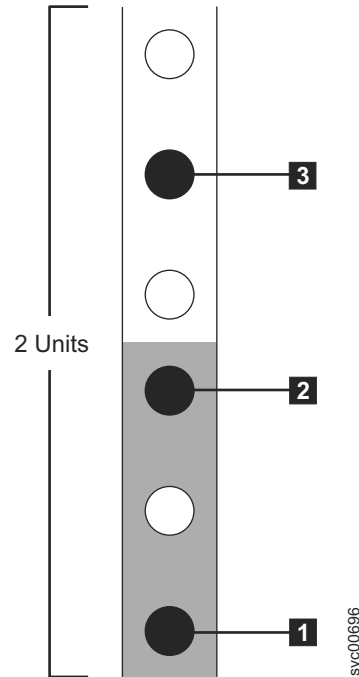

Figure 28. Hole locations in the back of the rack
1. Figure 28 shows two rack units with the back mounting holes identified at the rear of the rack.